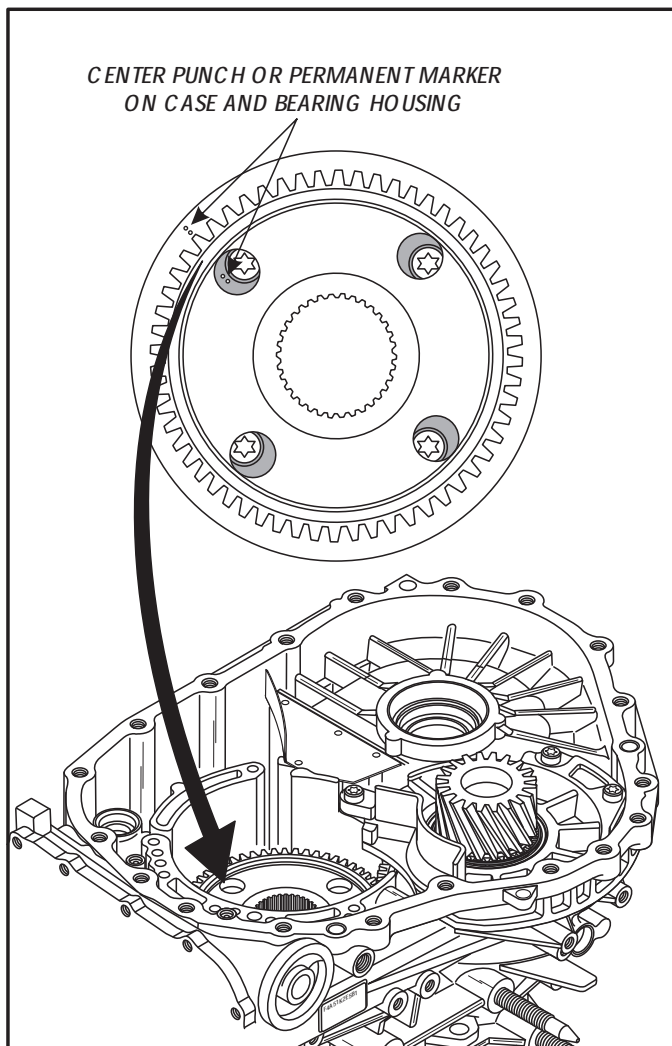

Figure 61
81. Remove the transfer drive gear by accessing the retaining bolts through the access holes provided, as shown in Figure 61.
Note: *Reference marks must be placed on case and bearing housing (See Figure 61). Housing bolts in case in 1 direction only.*